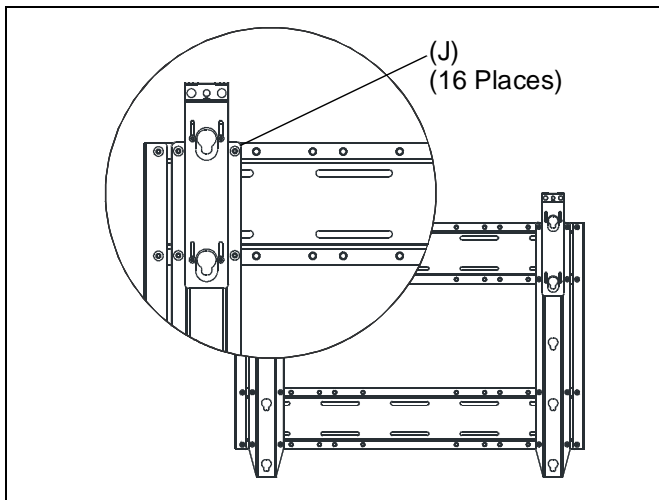

Figure 7
1. Using 3/16" hex key (L), loosely install vertical brackets (B) to wall plates (A) with 5/16-18 x 1/2" button head cap screws (J) (See Figure 7). Ensure the following:
- Brackets (B) are installed to outside set of mounting holes, closest to supports (C).
- Brackets (B) are installed so that latches are towards top of mount.
2. Tighten all 16 screws (J) securely.
- 33" horizontal dimension: Install brackets (B) to outside set of mounting holes, closest to supports (C). (See Figure 7)
3. Tighten all 16 screws (J) securely.